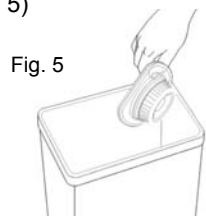

Fig. 5
6. To clean the HEPA filter cartridge, hold filter by frame flange and tap filter vigorously on the inside wall of a dust container (garbage can), until no more dust comes out of the filter. (Fig. 5)